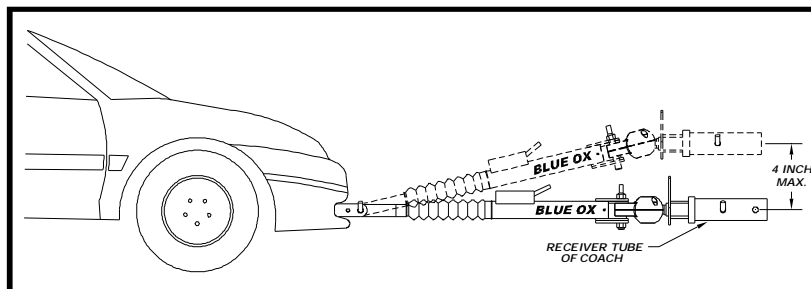

Figure 2
- Using the cable hooks, attach the cables to a solid part of the chassis of the towed vehicle or to the convenience links. When attaching the hooks, make sure the safety snap clicks back against the hook to prevent the hook from unhooking. (See Fig. 3) **NOTE:** It is best to have permanent chains that connect the convenience links to the frame of the car. (See Fig. 2)
CAUTION: It is important that the attachment points at the center of the attachment tabs and the center of the coach's hitch receiver should be of equal distance. If a deviation must be present, it should be no more than four (4) inches from the tabs up to the hitch receiver. There should be no deviation allowed for the hitch receiver tube to be below the level of the attachment tabs. Refer to Figure 2.